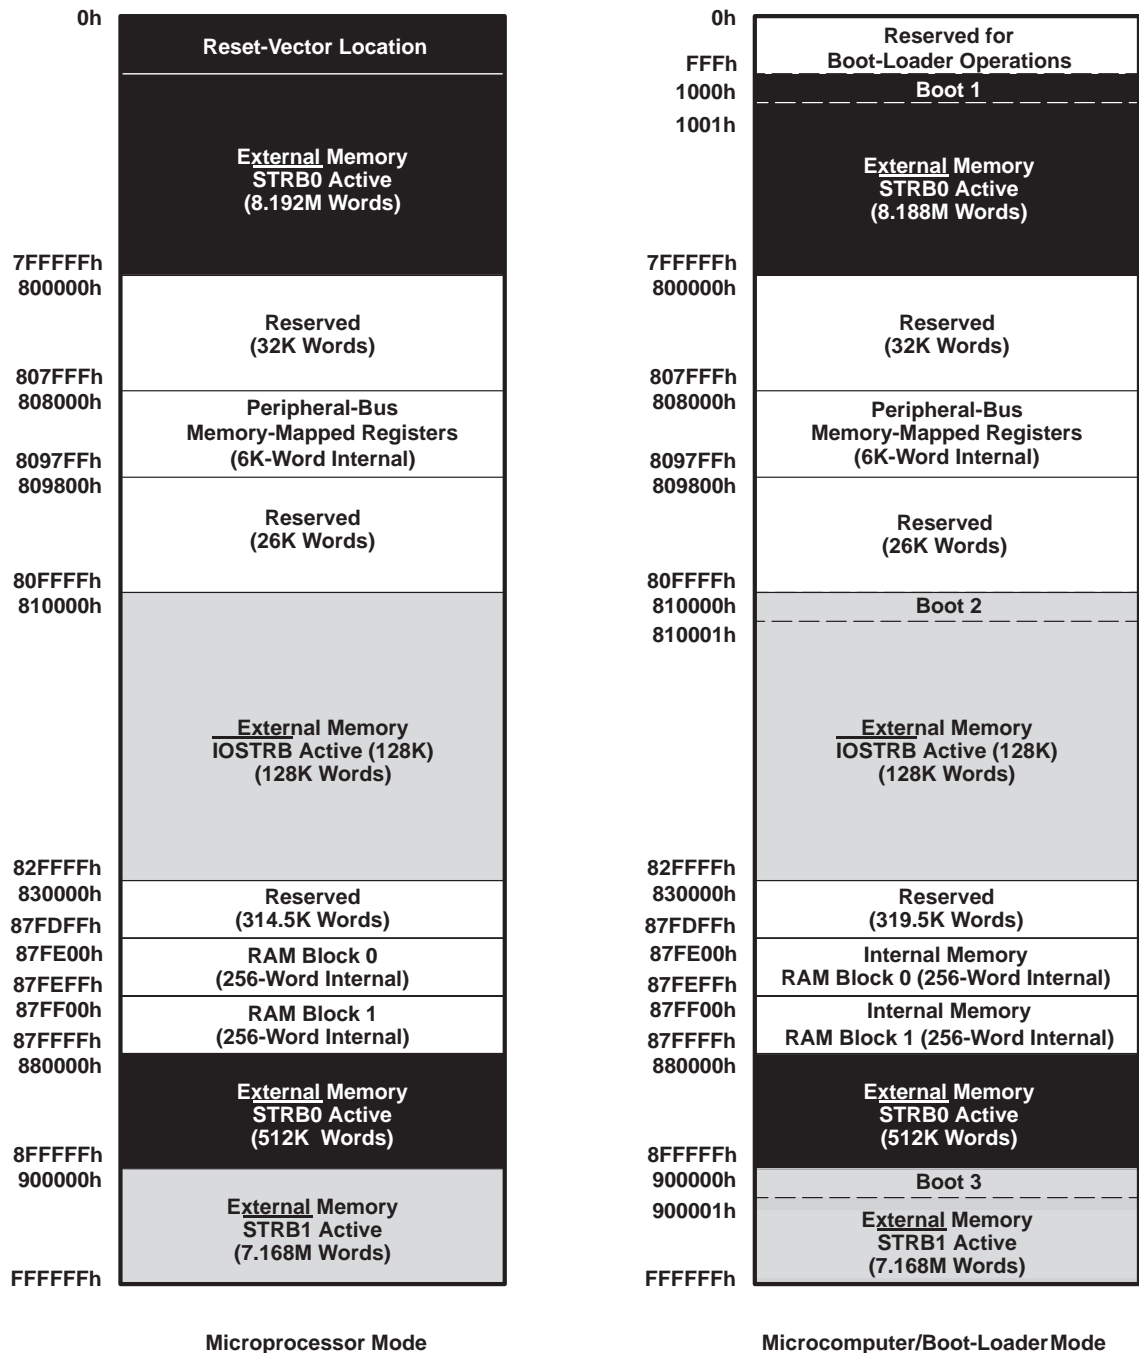

Figure 8. SMQ320C32 Memory Map
- $\overline{\text{STRB0}}$ and $\overline{\text{STRB1}}$ are sets of control signals, four signals each, that are mapped to specific ranges of external memory addresses. When an address within one of these ranges is accessed by a read or write instruction (CPU or DMA), the corresponding set of control signals is activated. Figure 8 illustrates the SMQ320C32 memory map, showing the address ranges for which the strobe signals become active.
- The $\overline{\text{IOSTRB}}$ control signal, like $\overline{\text{STRB0}}$ and $\overline{\text{STRB1}}$, is also mapped to a specific range of addresses but it is a single signal that can access only 32-bit data from 32-bit-wide memory. Its range of addresses appears in Figure 8, the SMQ320C32's memory map. The $\overline{\text{IOSTRB}}$ bus timing is different from the $\overline{\text{STRB0}}$ and $\overline{\text{STRB1}}$ bus timings to accommodate slower I/O peripherals.
Figure 8 depicts the memory map for the SMQ320C32. See the *TMS320C32 Addendum to the TMS320C3x User's Guide* (literature number SPRU132B) for a detailed description of this memory mapping.
To reduce external logic and simplify the interface, the external interrupts can be either edge- or level-triggered. Unlike the fixed interrupt-trap vector-table location of the '320C30 and '320C31 devices, the SMQ320C32 has a user-relocatable interrupt-trap vector table. The interrupt-trap vector table must start on a 256-word boundary. The interrupt and trap vector locations memory mapping is illustrated in Figure 10. The reset vector is fixed to address 0h as shown in Figure 8.